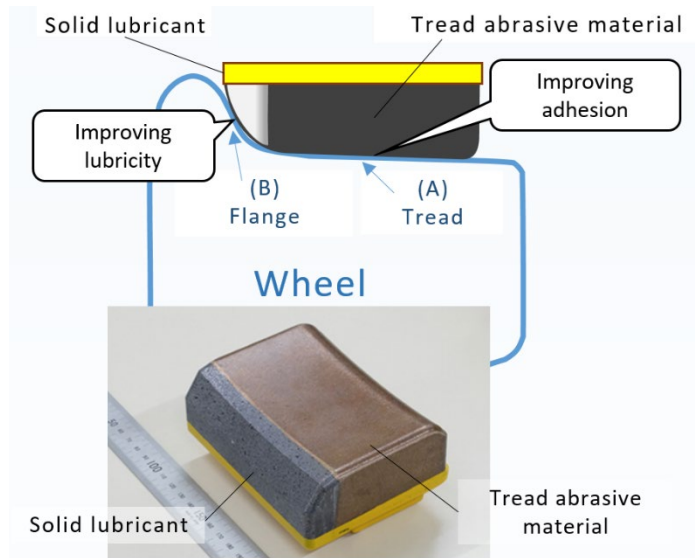
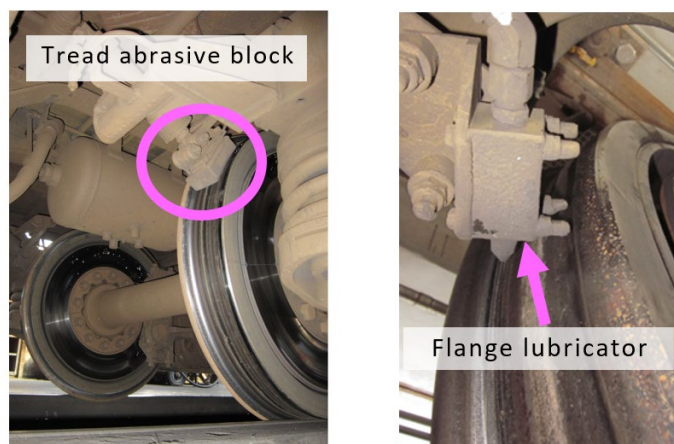

Figure 1: Integrated tread surface conditioning block
Figure 2: Current tread abrasive and flange lubricators
Train wheels have two areas, tread to keep rolling with rail head constantly {(A) in Fig. 1} and flange to prevent derailment on curves. {(B) in Fig. 1} Wheel tread needs to have proper roughness to prevent skidding and sliding (adhesion). Meanwhile the flange is required to have lower frictional coefficient in order to reduce rail and wheel wear (lubricity), as it contacts with rail while the train is running on curves.
Currently, two separate devices, tread abrasive (① in Fig. 2) and flange lubricators are used to improve two different properties of wheels, adhesion of tread and lubricity of the flange. (② in Fig.2). Instead of using two devices, RTRI's team led by the Frictional Materials Laboratory has developed the integrated tread surface conditioning block capable of improving both properties as a single device (Fig.1)